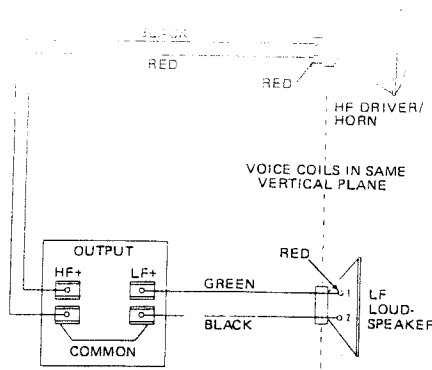
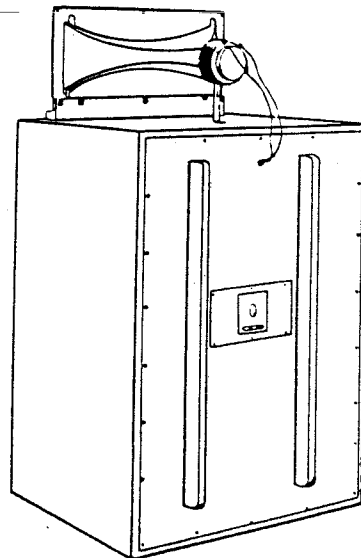

Figure 7. System Interconnect Diagram
Figure 8. Externally Mounted HF Horn System, Rear View
10. Using wire leads supplied with network, interconnect components as shown in Figure 7. Leads to HF driver may be taken through 1/2" diameter wire hole in rear panel (see Figure 8).
11. Replace rear panel and secure to cabinet with sixteen No. 8 x 1/4" flat-head wood screws. Figure 8 shows panel (with network) installed.